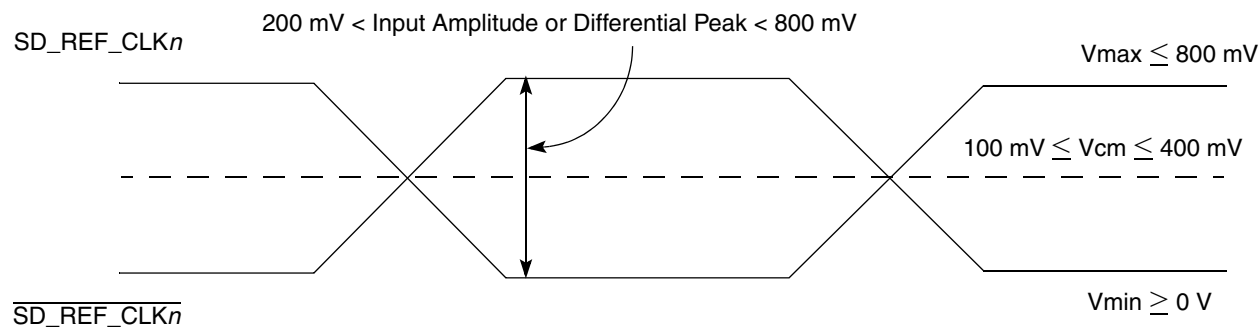

Figure 37. Differential reference clock input DC requirements (external DC-coupled)
- For an external DC-coupled connection, as described in Section 2.20.2.1, “SerDes reference clock receiver characteristics,” the maximum average current requirements sets the requirement for average voltage (common mode voltage) as between 100 mV and 400 mV. Figure 37 shows the SerDes reference clock input requirement for DC-coupled connection scheme.